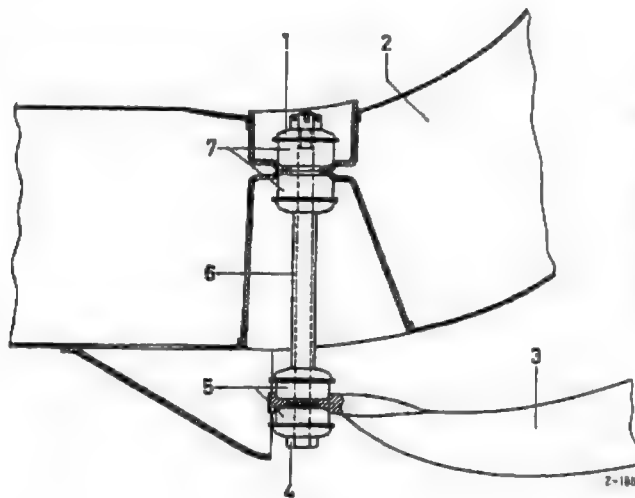

Fig. 35-1/10
33. Attach the rear brake cables (1) on the right and on the left to the bracket on the chassis base panel and to the equalizer (3). Tighten the hexagon nuts. Make sure that the rubber sleeves are seated correctly. Attach the return spring (2) (Fig. 35-1/3 and Job No. 42-19).
34. Fasten the propeller shaft the joint flange of the rear axle with the cheese head screws, new locking plates and, if necessary, new hexagon nuts (Fig. 35-1/3).